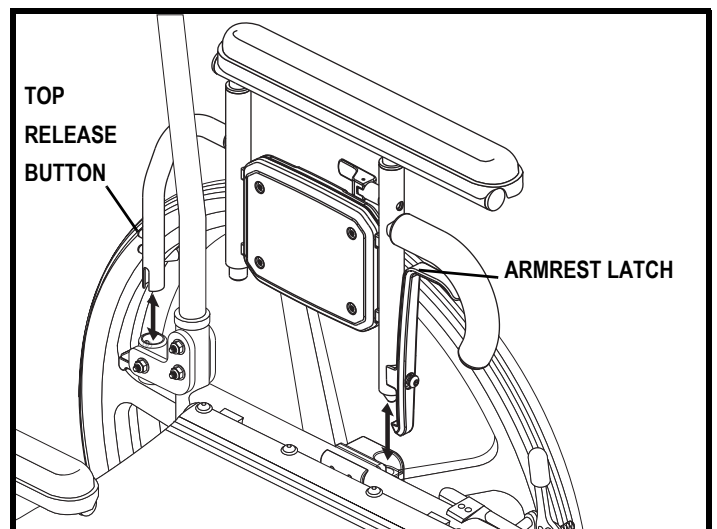

Figure 37. Dual-post Armrest Removal
1. Pull back the armrest latch located on the armrest. See figure 37.